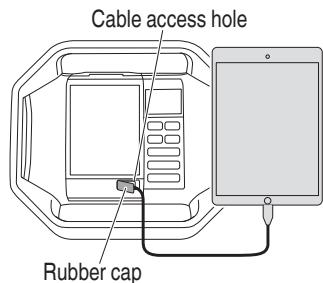

Fig. 10
- Should your device be too large for the radio's external device storage case, draw the cable through the cable access hole. (Fig. 10)